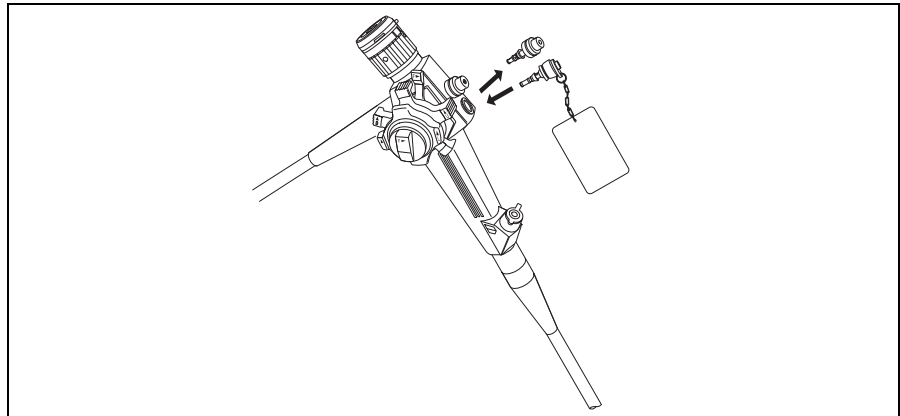

Figure 3.4
2. Remove the Air/Water Valve from the endoscope and replace it with the AW Channel Cleaning Adapter (see Figure 3.4).